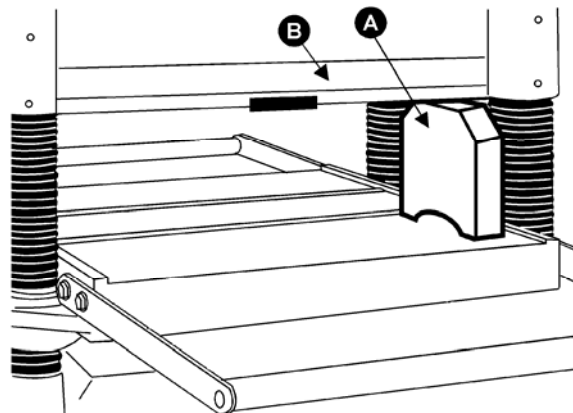

Figure 21
2. Place the gauge block (A, Fig. 21) on the work table directly under front edge of head casting (B, Fig. 21). Make slight contact by gently raising table.